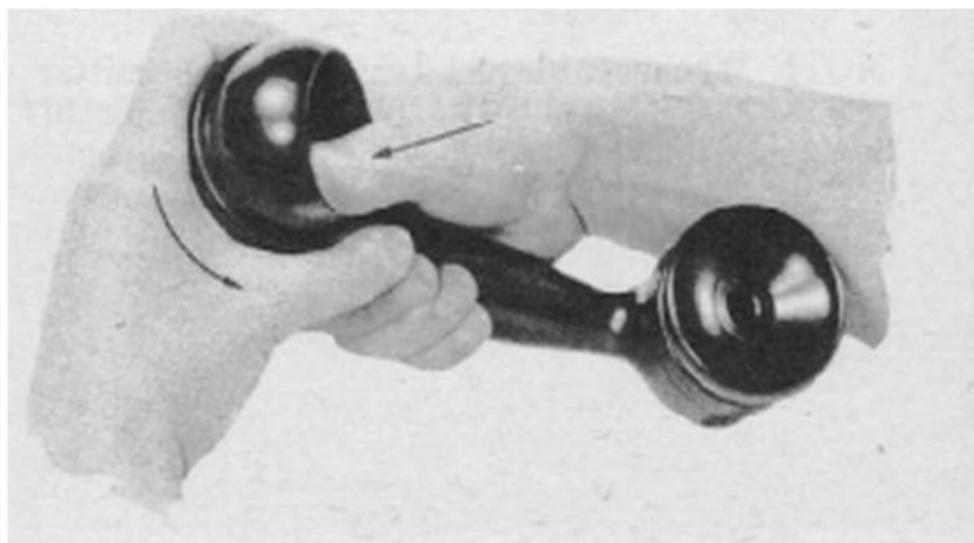

Fig. 2 To Remove Mouthpiece, Turn Metal Ring in a Counter-Clockwise Direction Holding Moulded Piece with Thumb
- (a) Grasp the handset in the right hand, with the transmitter end up and the right thumb firmly pressed against the left inner side of the mouthpiece. (See Fig. 2.)